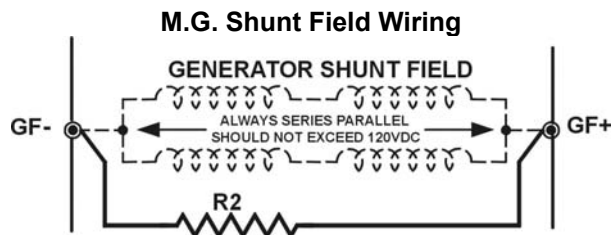

Figure 1-12
- The third is for the generator field that consists of current conductors that wire from the controller to the Field windings of the generator. [See Figure 1-12.]